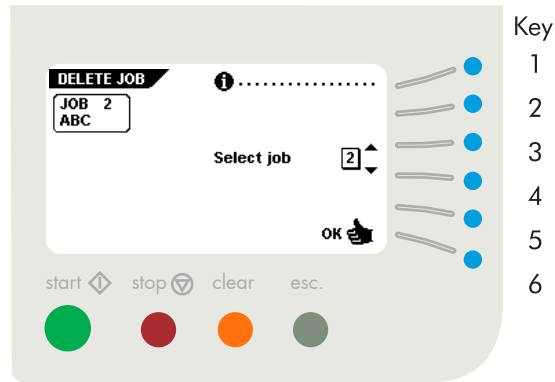
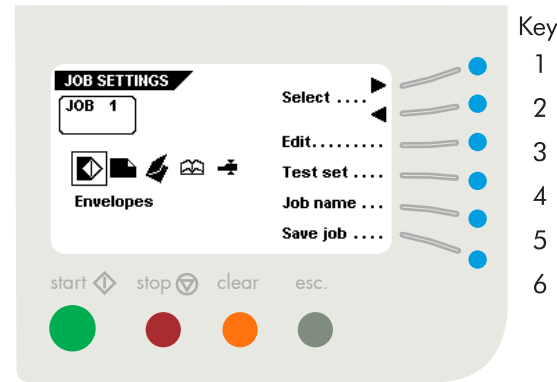
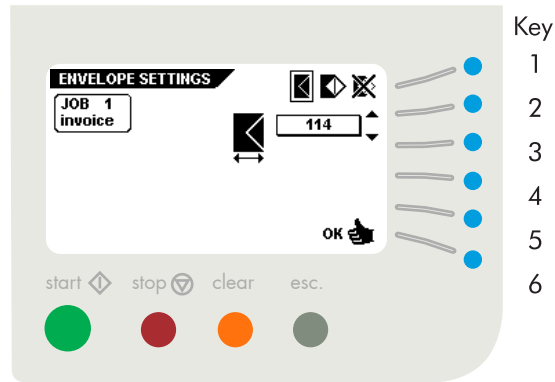

Fig. 33
Fig. 34
Fig. 35
After pressing key 5 in the "job menu", the display shows the "delete job" menu, as shown in Fig. 33. The "delete job" menu shows the following functions:
- job information (key 1).
- select a higher job number to delete (key 3).
- select a lower job number to delete (key 4).
- delete job with "OK" (key 6) which will get you to the "job menu".
After confirmation (key 6) in the "create job" or "edit job" menu, the display shows the "job settings" menu as shown in Fig. 34. The "job settings" menu shows the following functions:
- select a setting menu by pressing key 1 or 2. To program a job use the following order of settings:
- select the chosen settings menu to edit (key 3).
- go to the "test set" menu (key 4).
- go to the "job name" menu (key 5).
- save the job settings by pressing key 6 which will automatically get you back to the "job menu".
When the "envelope settings" menu is selected and key 3 is pressed in the "job settings" menu, the display shows the screen as shown in Fig. 35. In this menu, the following choices are available by pressing key 1:
When “envelope with closed flap” is selected the display shows the screen as shown in Fig. 35. The following choices are available: